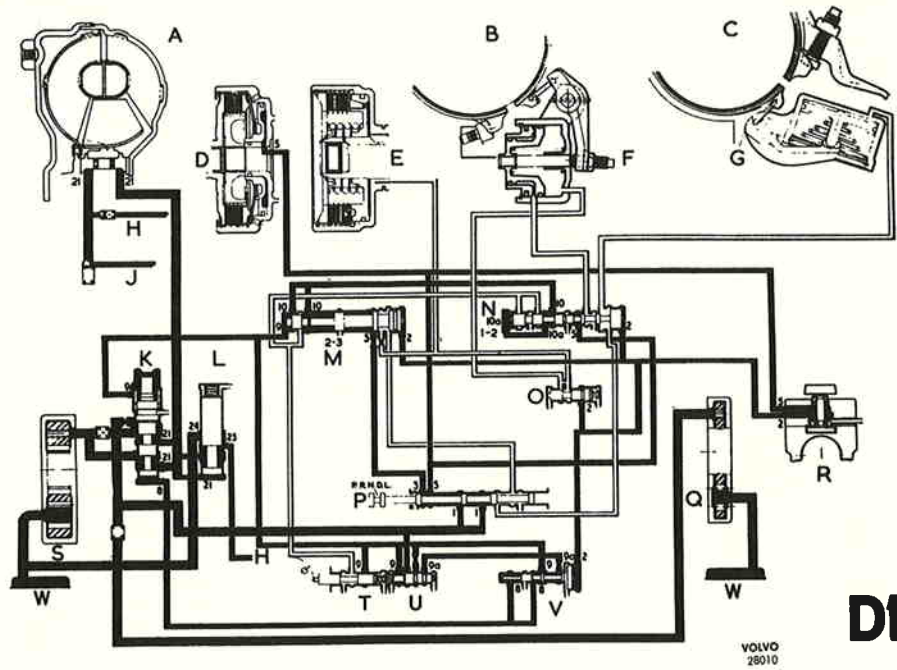

Fig. 20. Operation in 1st gear, position "D".
**Operation in "D 1", see Fig. 20**
Fluid pressure from the front and/or rear pump is controlled as in "R", but with the throttle valve in the full throttle position as shown in Fig. 20, a modulator throttle pressure regulated by the valve plunger will be obtained. This pressure acts upon the primary